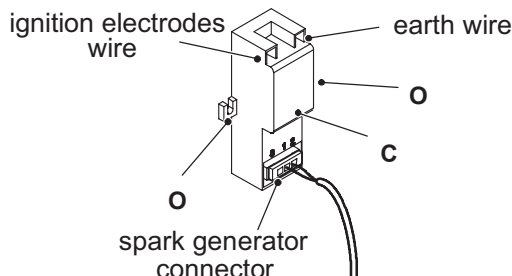

Figure 18.8
- 2 Disconnect the spark generator connector coming from the control p.c.b, the electrode swire and the earth wire coming from the ignition electrodes (Figure 18.8).